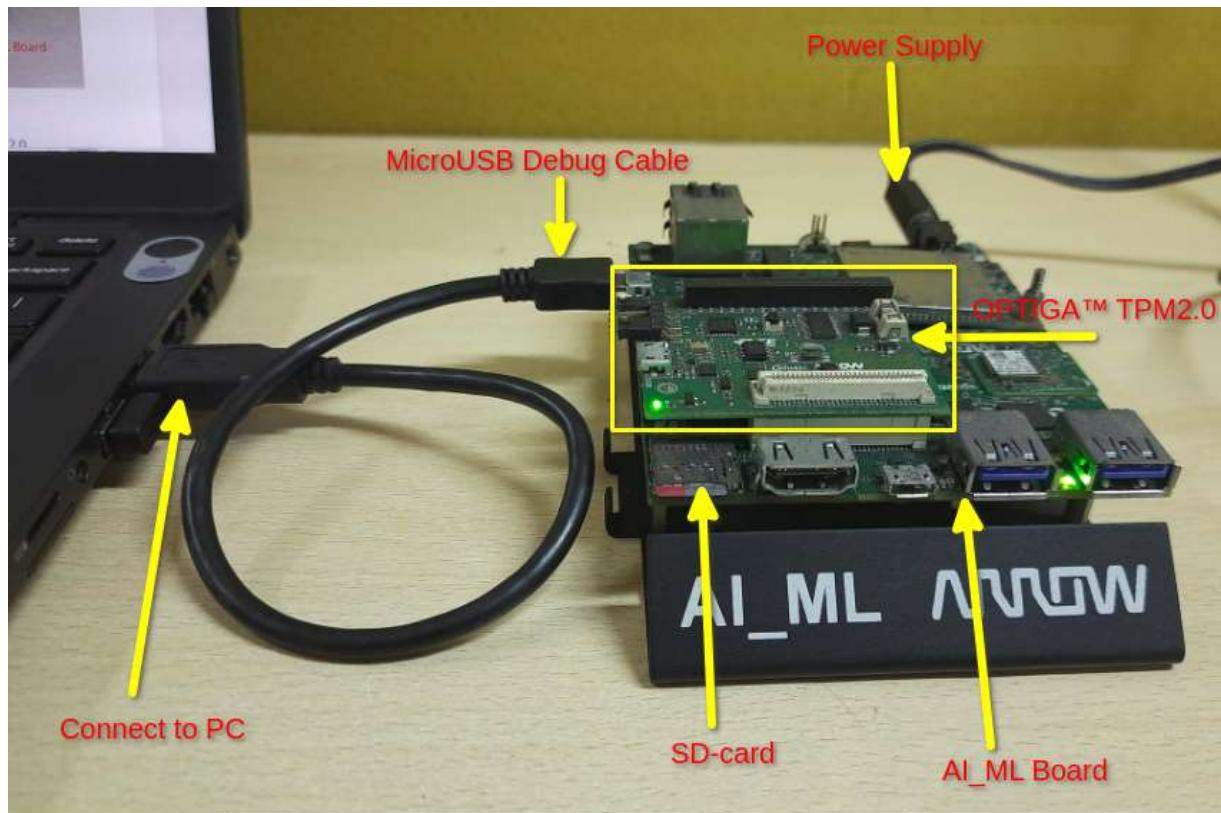

Figure 2: Hardware Connection Setup on AI_ML board
The mezzanine will be mounted on top of the AI_ML board as shown in Figure 2. When the AI_ML board is powered-up, the Power LED on the OPTIGA™ TPM2.0 board turns on, indicating that the board is correctly connected. *Need to ensure the dip switch settings are configured for SD1 (0011). These settings are also on the silk screen of the board for your reference.*
2. Connect Micro USB Debug Cable on the Tresor Mezzanine board as shown in above Figure 2.